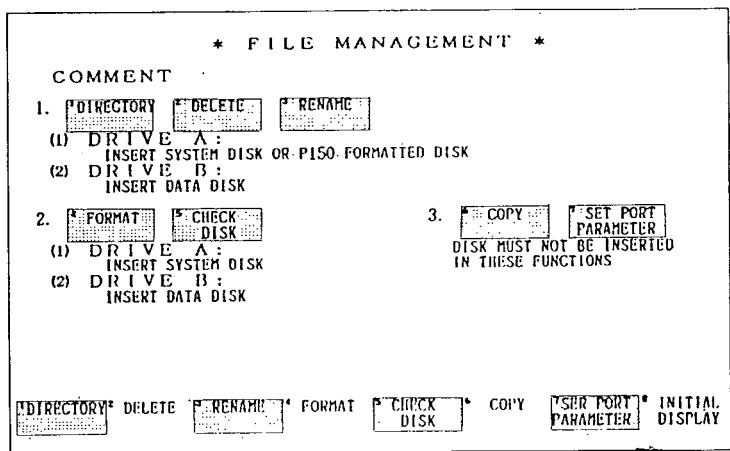

Fig. 7.113
2. Depressing **INITIAL DISPLAY** key as shown in Fig. 7.113 also calls up the initial (Menu List) display again.